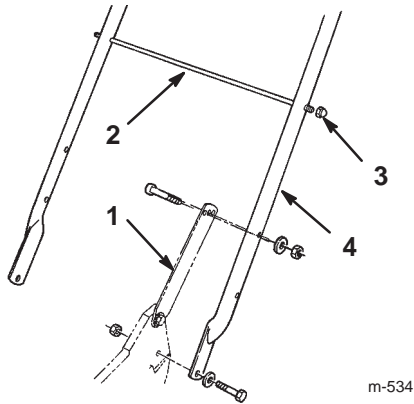

Figure 2
2. Secure the handle latches to the handle with 2 cap screws (5/16–18 x 1-1/2 in.), washers, and nylon insert locknuts (Fig. 2).
3. Slide the bag support rod through the second from the top mounting holes in the handle and secure each end with a cap locknut (Fig. 2).